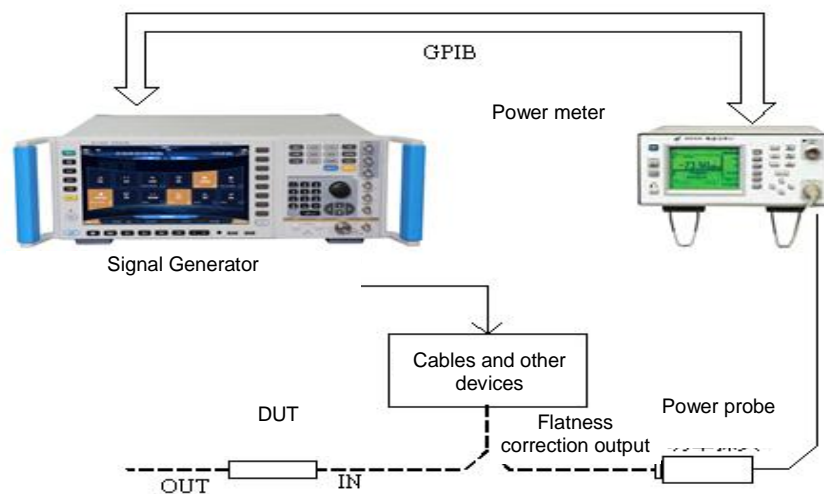

Fig. 4.13 User Flatness Correction
Step 1. Connect the instrument as shown in Fig. 4.13.